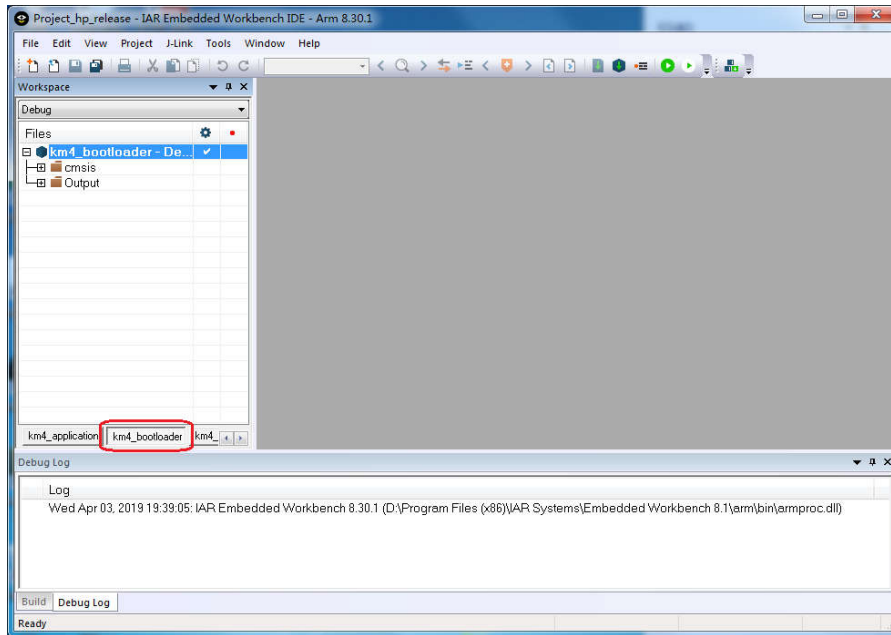
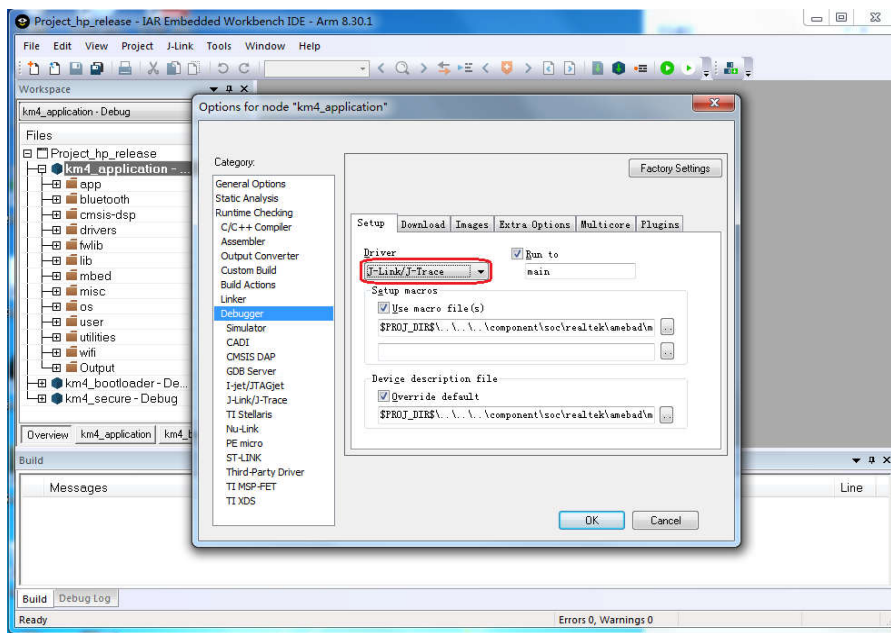

Fig 1-12 Switching to the target project view
Fig 1-13 J-Link debugger setup
- (1) Choose the target project display in Workspace window, for example, km4_bootloader as Fig 1-12 shows.
- (2) If using J-link debugger, check whether the J-link debugger setting is correct.
- a) Click **Project > Options > Debugger > Setup > Driver**, and choose "J-Link/J-Trace", as Fig 1-13 shows.